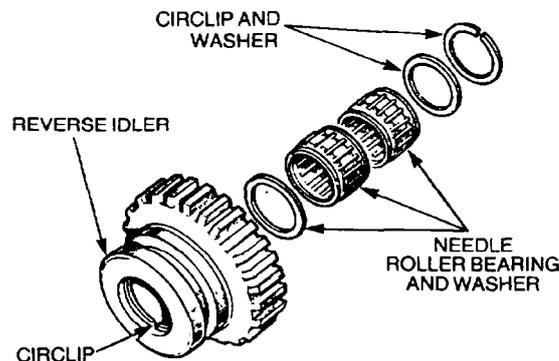

Figure 157 Reverse Idler Exploded View
- w. Remove the circlips retaining the needle roller bearings in the reverse idler and remove the bearings and washer (Figure 157). Discard the circlips and bearings.